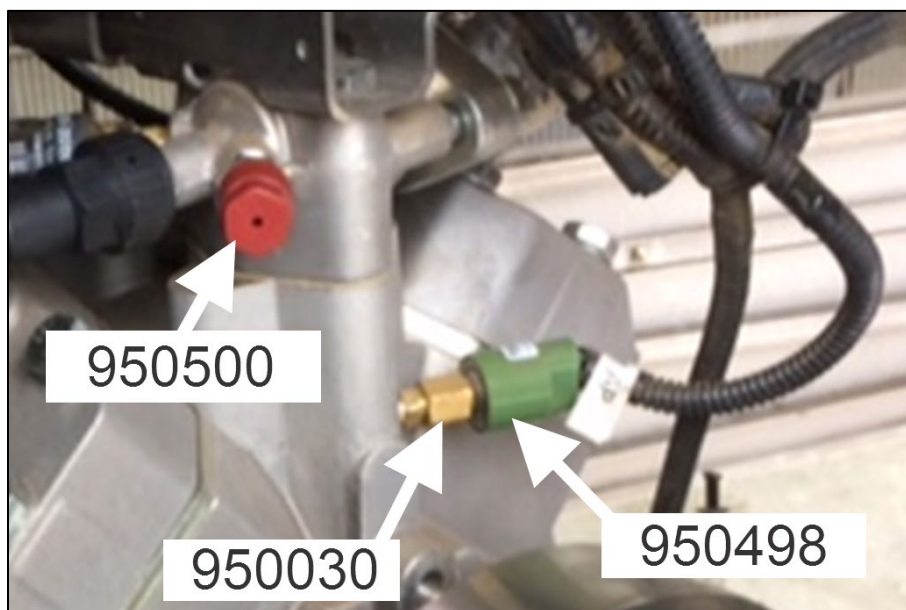

FIGURE 42
75. Install all components (3) shown in Figure 42 on the new compressor.